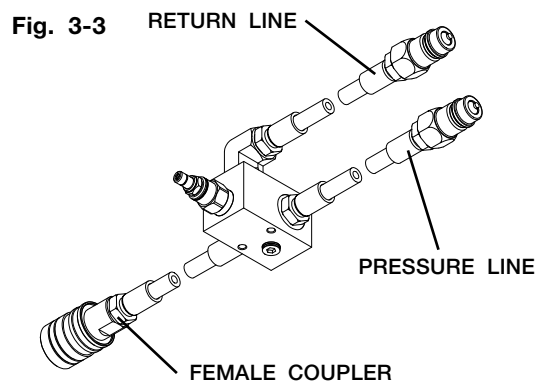

Fig. 3-3
3. Attach pressure and return couplers to the tractor and the female coupler to the track. See Fig. 3-3.
6. Start tractor and use SCV to pressurize line as shown in Fig. 3-3. The valve in the tensioner hose will regulate the pressure for the track.